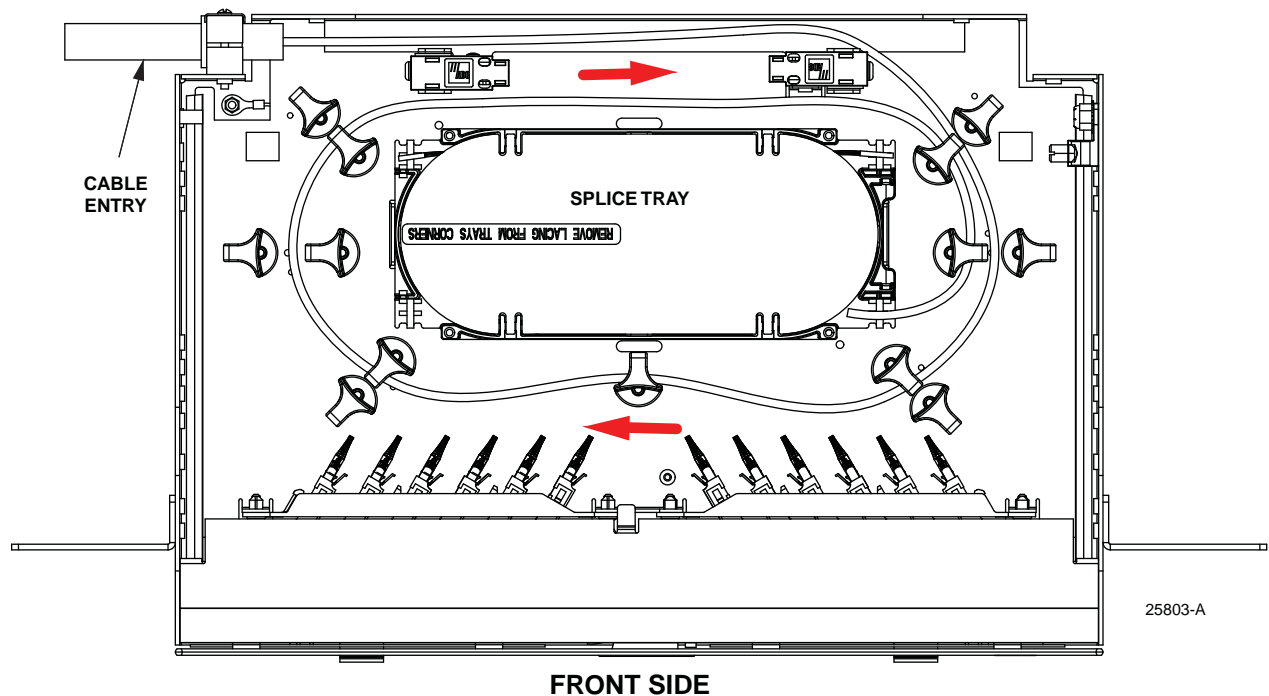
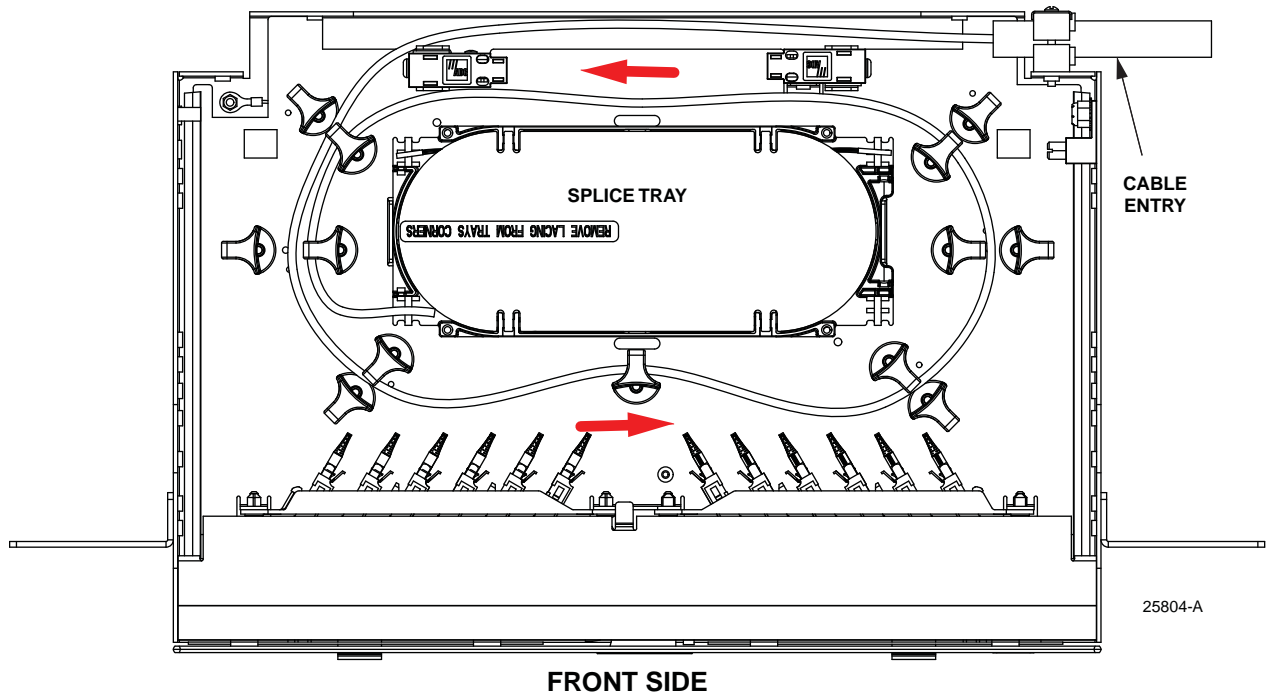

Figure 28. Routing OSP Cable to Splice Tray, Left Side Entry
Figure 29. Routing OSP Cable to Splice Tray, Right Side Entry
4. Route the cable corresponding to Figure 28 and Figure 29.